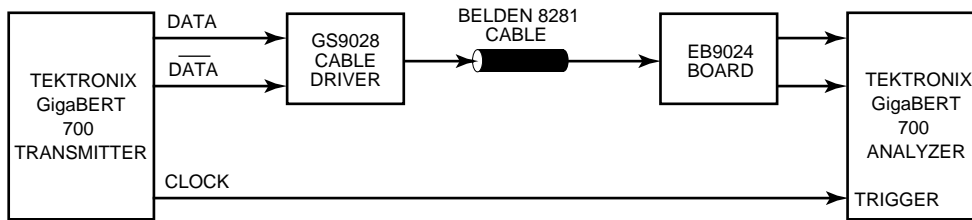

Fig. 1 Test Setup for Figure 3.
- Evaluated using test setup Figure 1.